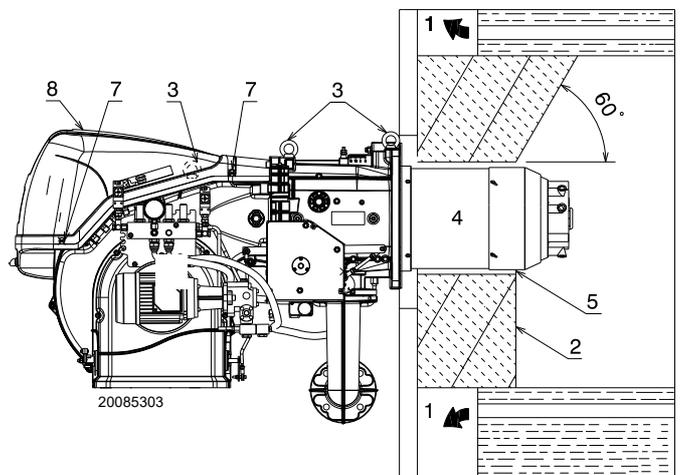

Fig. 14
For boilers with front flue passes 1) (Fig. 14) or flame inversion chamber, a protection in refractory material 5) must be inserted between the boiler fettling 2) and the flame funnel 4).
For boilers with a water-cooled front piece, a refractory lining 2)-5)(Fig. 14) is not necessary, unless expressly requested by the boiler manufacturer.
Prepare a suitable lifting system using rings 3)(Fig. 14).
- Fit the heat insulation supplied onto the blast tube 4)(Fig. 14).